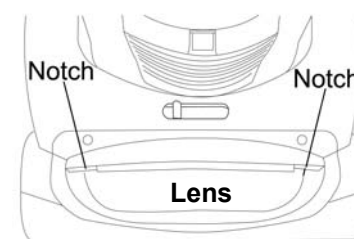

Fig. 19
- Snap the lens cover off by pressing down to release the two notches on the lens. (Fig. 19)